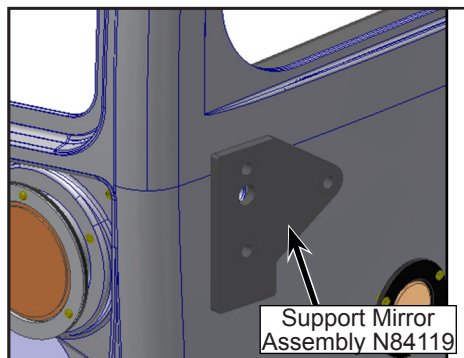

Figure 11 - Support Mirror Assembly alignment to Contour
- 1.11. Place LH mirror support assembly N84119, aligning with the contour traced and retain (see Figure 11).